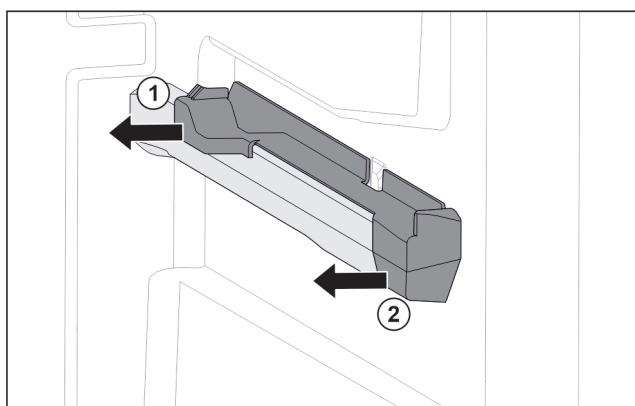

Fig. 113 Attachment on the right moulded rib
- Pull off attachment at the back sideways. Fig. 113 (1)
- Pull off attachment at the front sideways. Fig. 113 (2)